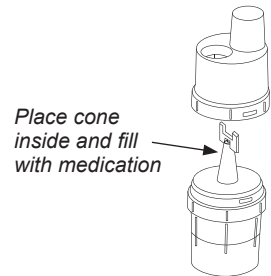

Figure 3: Nebulizer cup
- Fill the bottom section of the nebulizer cup with the medication prescribed by your physician. Be sure that the cone is put inside the bottom section (Figure 3).